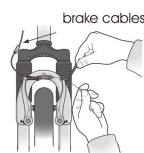

Fig.1
3. The locking torque of the brake screw: 20-30kgf/cm (Fig. 1)